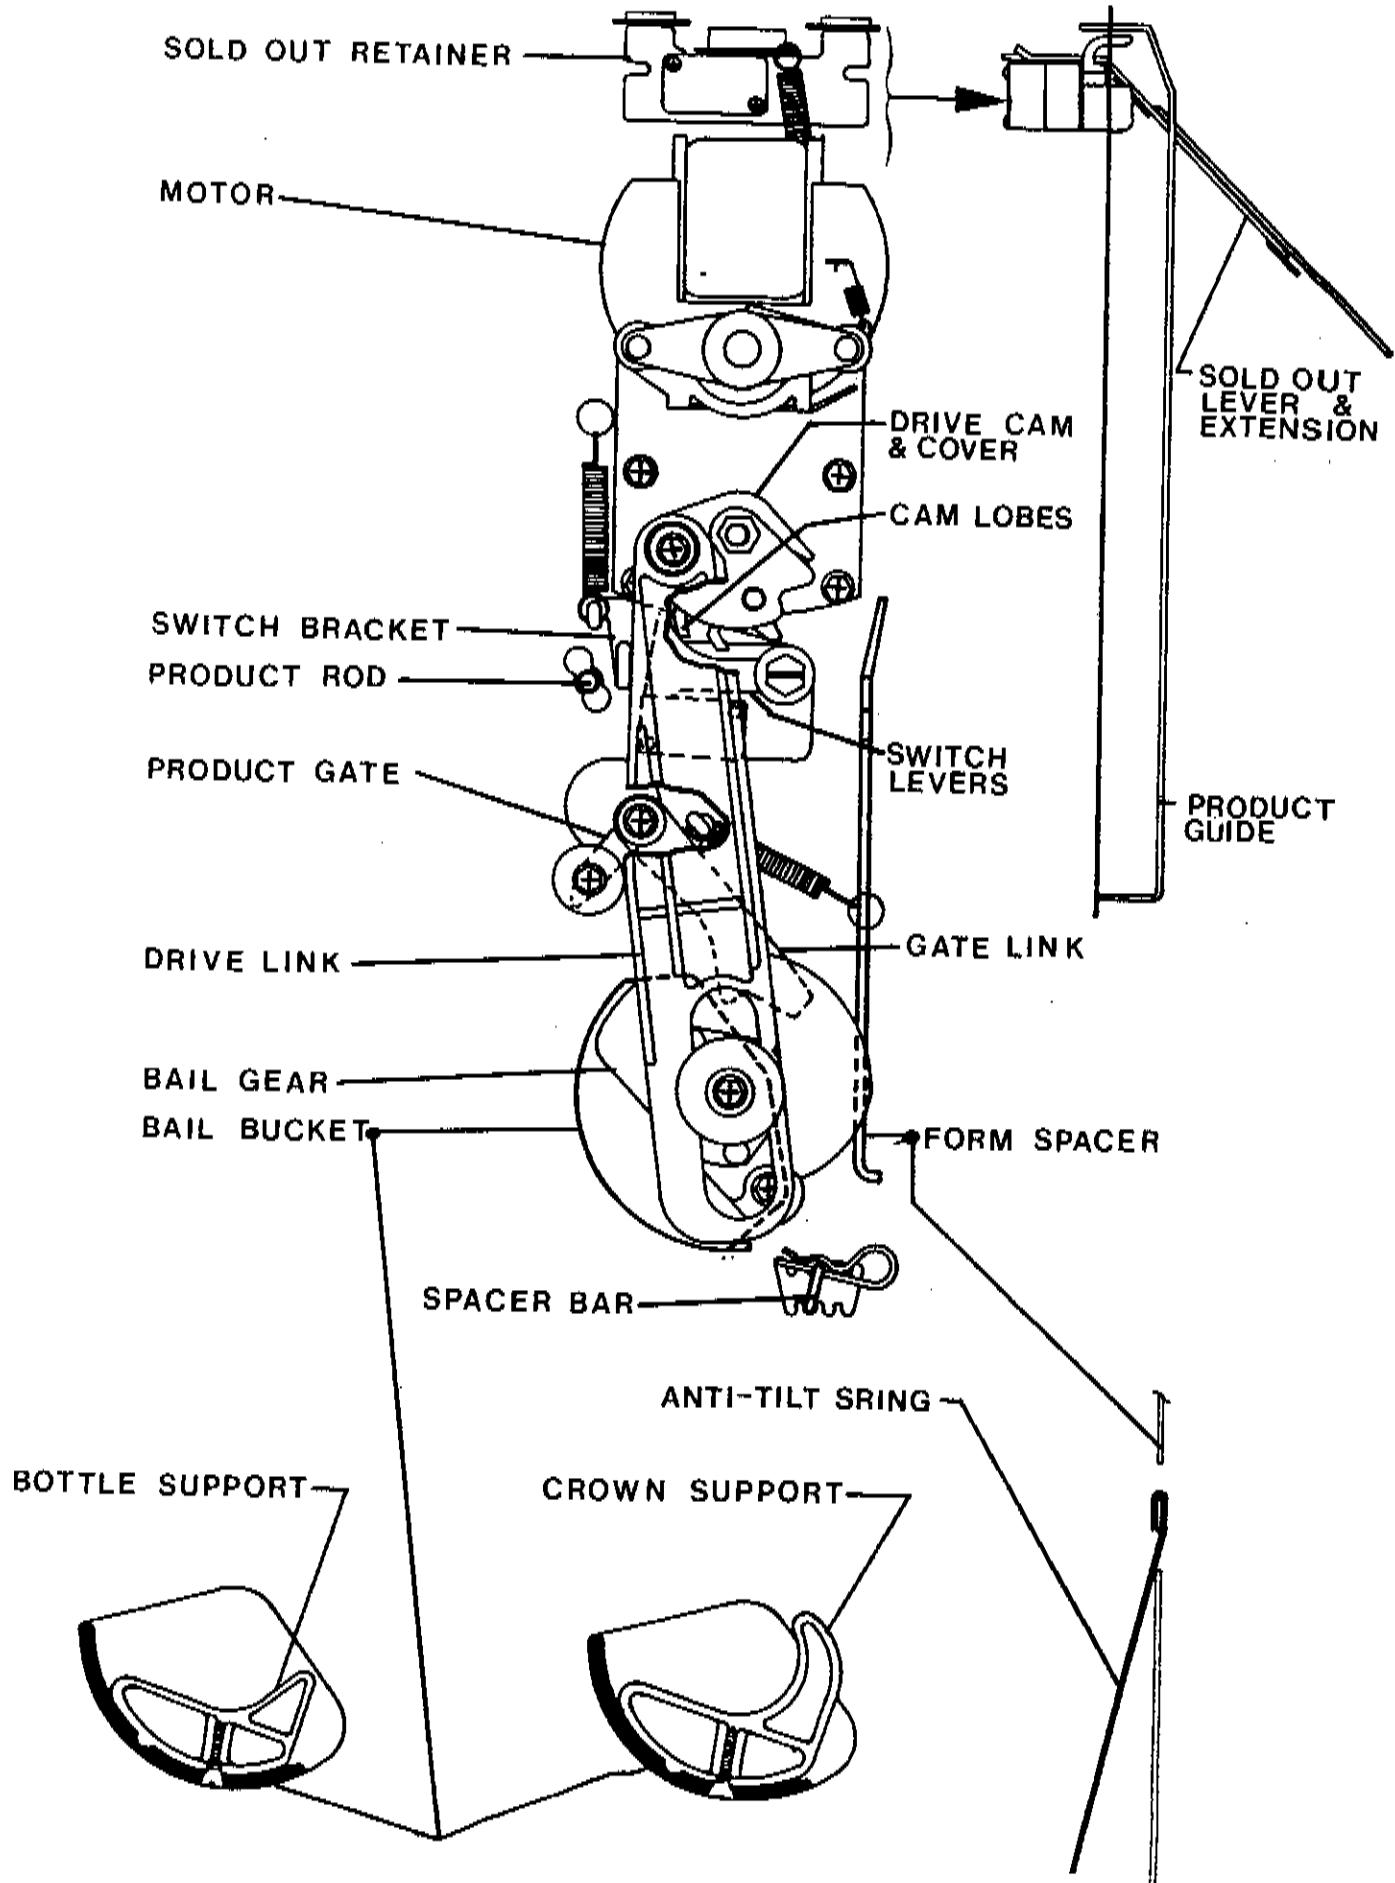

FIG. 39
The following Vend cycles for "single", "double", and "triple" depth describe what occurs mechanically when the motor is started (electrically). For the electrical vend cycle details please refer to the Electrical Operations section (pages 84 thru 95), for parts identification refer to FIGURE 39 on page 81 and parts descriptions pages 82 thru 83.
**B. PARTS DESCRIPTIONS FIGURE 39****1. MOTOR (P/N 387796)**